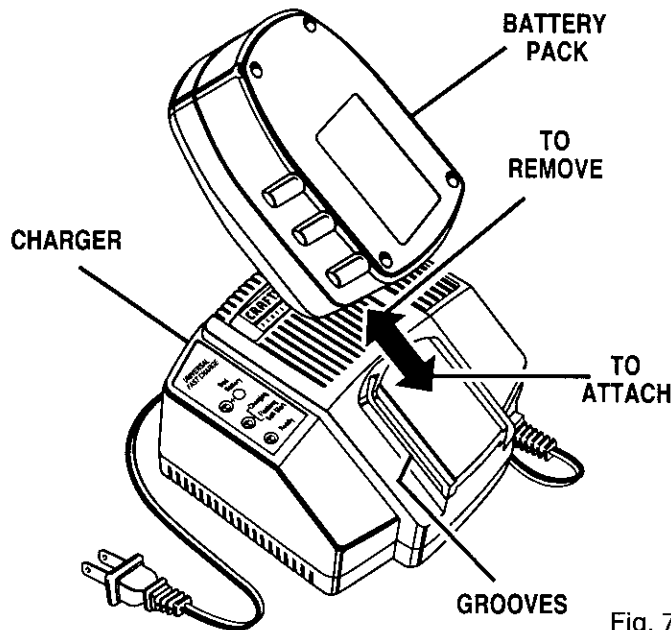

Fig. 7
- Attach battery pack to charger by aligning raised ribs on battery pack with grooves in charger, then slide battery back onto charger. *See Figure 7.*